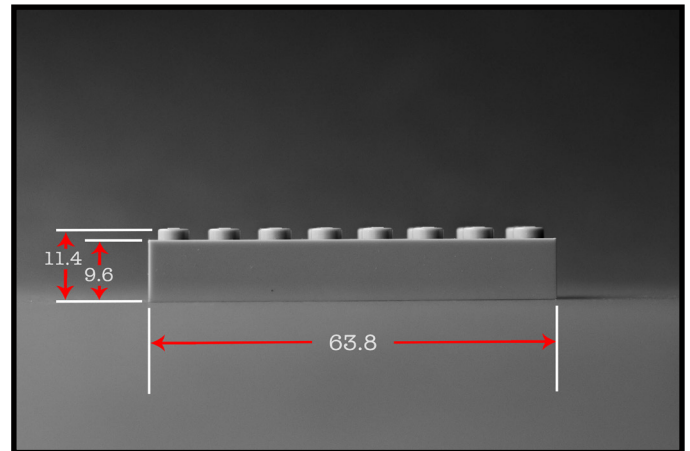

Figure 7.13 - Numerical Values
Step 3 : Dimension lines are typically broken in the middle so a numeric value can be inserted, as in figure 7.13.